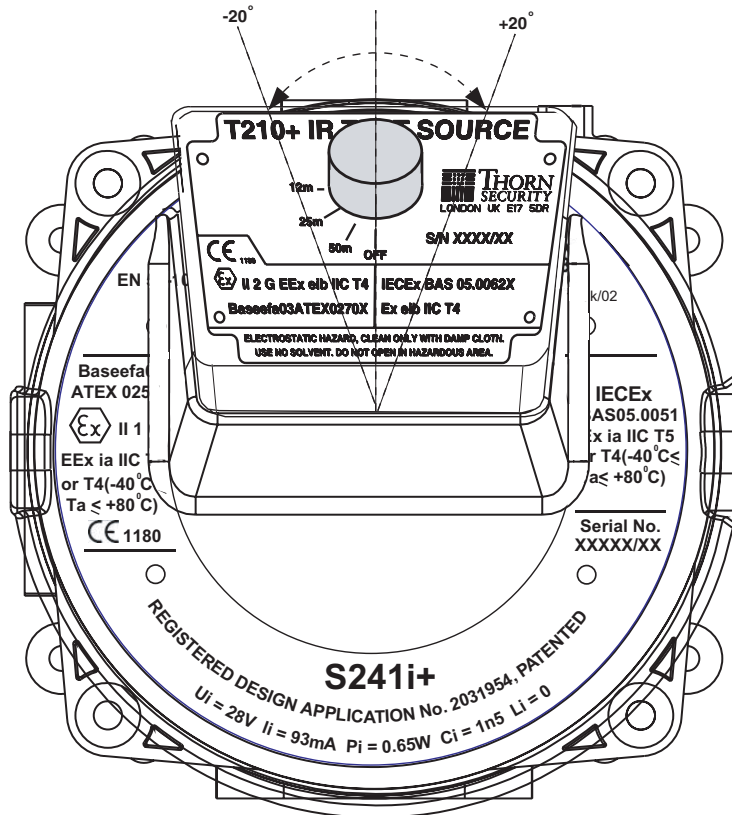

Fig. 2 T210+ Alignment
- The T210+ is calibrated with the T210+ aligned with the front face of the S200 (see Fig. 2). It is therefore recommended that the operator adjusts the swivels on the T210+ bracket to line up the T210+ with the S200 detector on the ground prior to fitting the extension poles. The T210+ unit should be approximately aligned with the cable entry holes on the S200.
- Offer up test unit to the front of the detector and engage top of the front surround on the top edge of the detector. Check that the T210+ is correctly aligned as per Fig. 2. If not, lower the T210+ and readjust swivels until the T210+ aligns correctly within the specified limits.